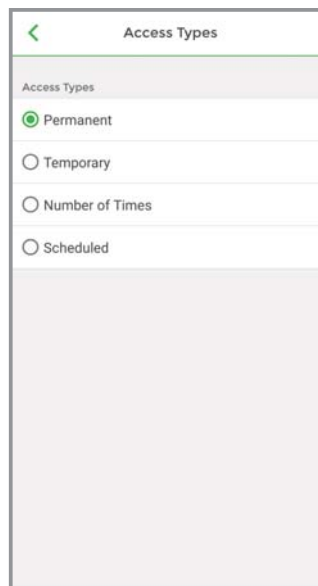

Figure 3
i. **Access Type** : (4 options) (See Figure 3)
- (A) Permanent : Permanent access is given by default.
- (B) Temporary : Set specific access time period for guests and visitors.
- (C) Number of Times : To set number of access granted to user.